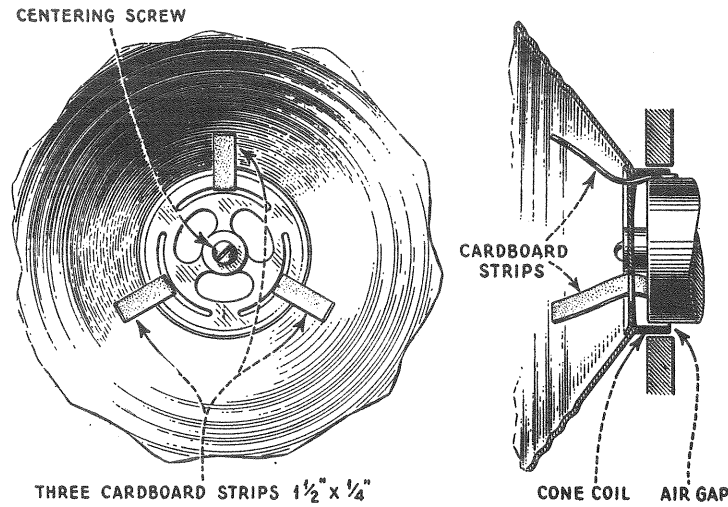

Figure 4—Location of cardboard strips for centering of cone
- (c) Place three small cardboard strips, about $1\frac{1}{2}$ " x $\frac{1}{4}$ " and the thickness of a visiting card, through the center web of the cone into the space between the pole piece and cone. This will give the cone coil the same clearance on all sides of the pole piece. Figure 4 shows this operation.